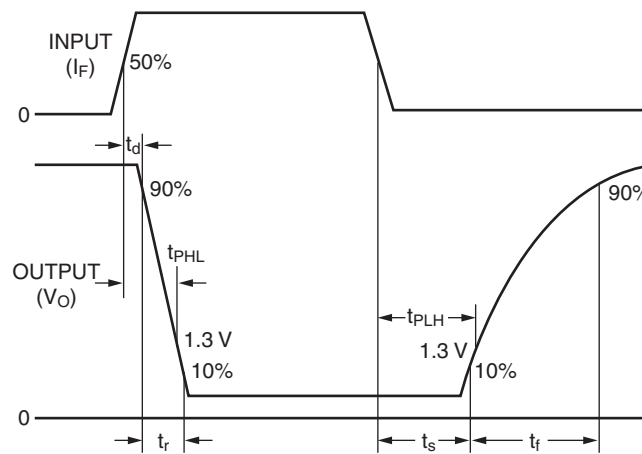

Figure 14. Switching Circuit Waveforms
3. Referring to Figure 14 the T_{PHL} propagation delay is measured from the 50% point of the rising edge of the data input pulse to the 1.3V point on the falling edge of the output pulse.
4. Referring to Figure 14 the T_{PLH} propagation delay is measured from the 50% point of the falling edge of data input pulse to the 1.3V point on the rising edge of the output pulse.